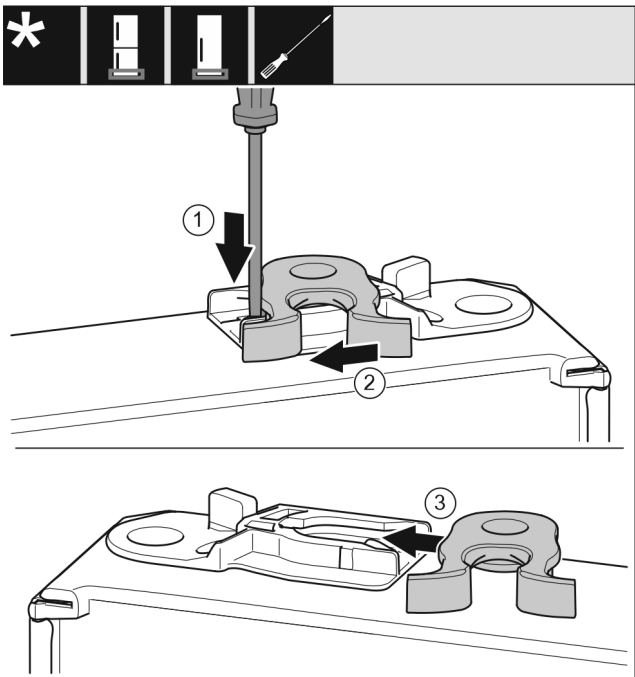

Fig. 17
- ▶ Use a slotted screwdriver to push the tab Fig. 17 (1) downwards.
- ▶ Pull the closing hook Fig. 17 (2) out of the guide.
- ▶ Insert the closing hook Fig. 17 (3) into the guide on the other side.